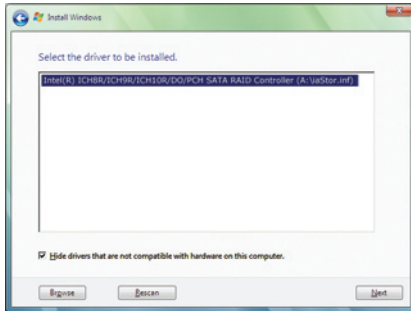

Figure 7
When a screen as shown in Figure 7 appears, select **Intel(R) ICH8R/ICH9R/ICH10R/DO/5 Series/3400 Series SATA RAID Controller (A: \aStor.inf)** and click **Next**.